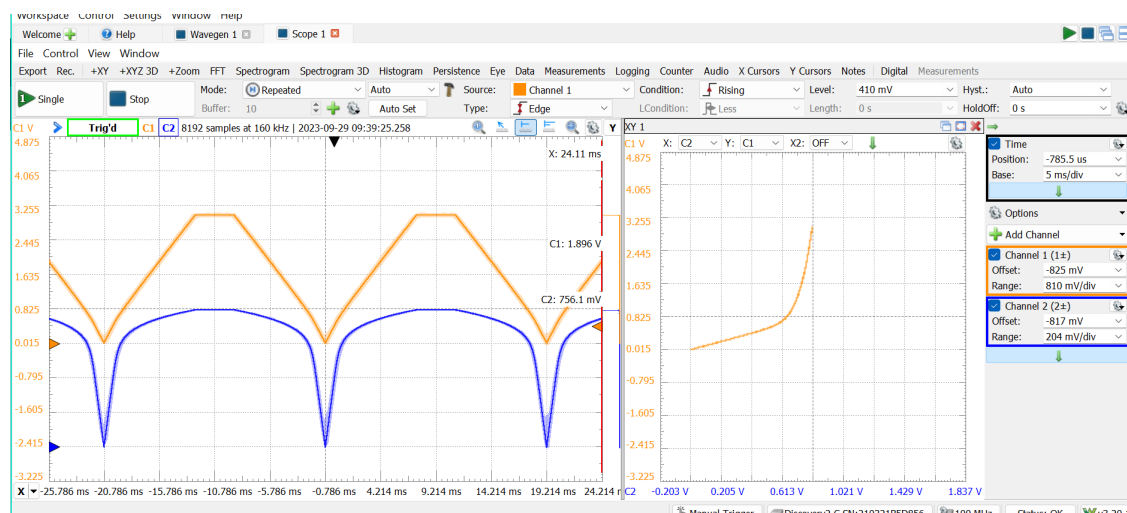

Figure 7: Voltage over resistor and diode with capped input voltage
- To construct the graph of the diode's I-V relationship, I first add an X-Y plot on Waveforms with Y as the voltage over the resistor (as current through a resistor and thus circuit is proportional to the voltage drop over the resistor) and the X axis as the voltage over the diode. This is visible in Figure 7 and 8.
TS2: Now I had the graph in Figure 7, with a floor on the bottom peaks of the channel reading the voltage over the resistor (orange). I thought that this was an issue I needed to fix, but the